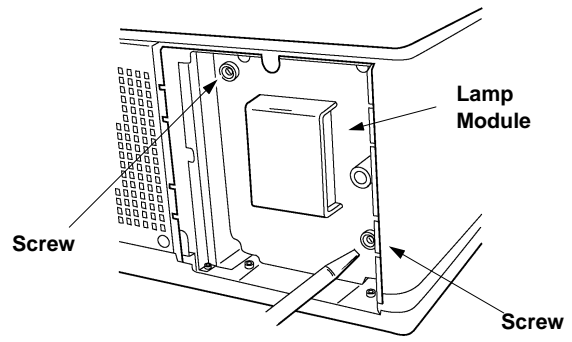

Figure 6-2. Lamp Module Retaining Screws
**Discount-Merchant.com (800) 281-8860**
**Retaining Screws:** Use a standard screwdriver to unscrew the lamp module retaining screws (Figure 6-2).
Tighten the lamp module retaining screws to secure the lamp module in place (Figure 6-2).